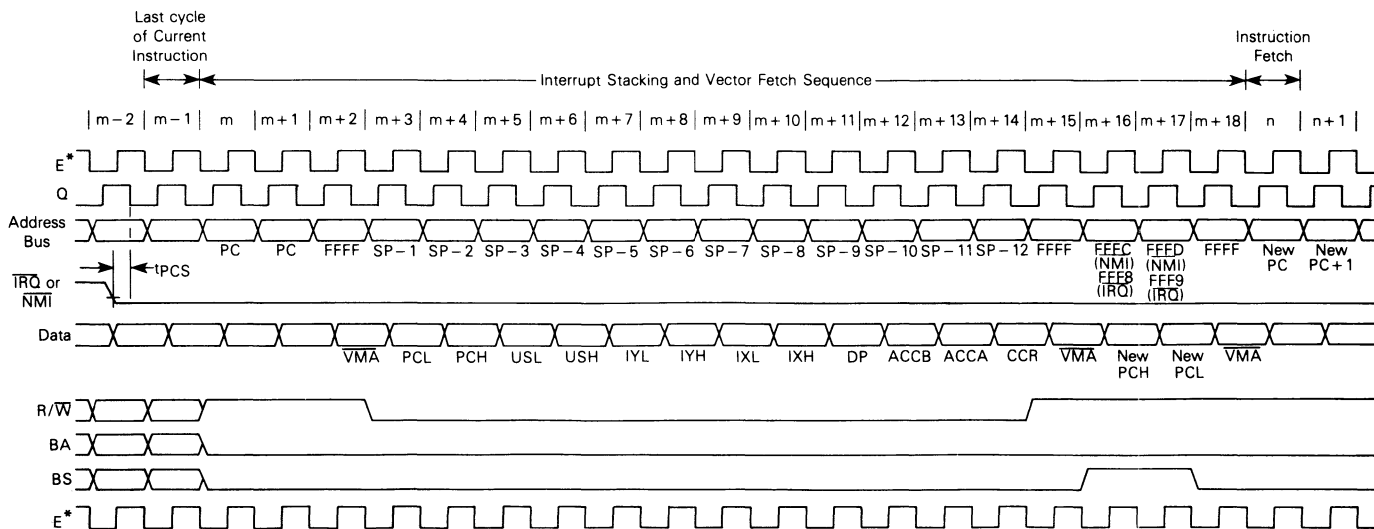

FIGURE 10 - $\overline{\text{FIRQ}}$ INTERRUPT TIMING
A low level on this input pin will initiate a fast interrupt sequence, provided its mask bit (F) in the CC is clear. This sequence has priority over the standard interrupt request ($\overline{\text{IRQ}}$), and is fast in the sense that it stacks only the contents of the condition code register and the program counter. The interrupt service routine should clear the source of the interrupt before doing an RTI. See Figure 10.